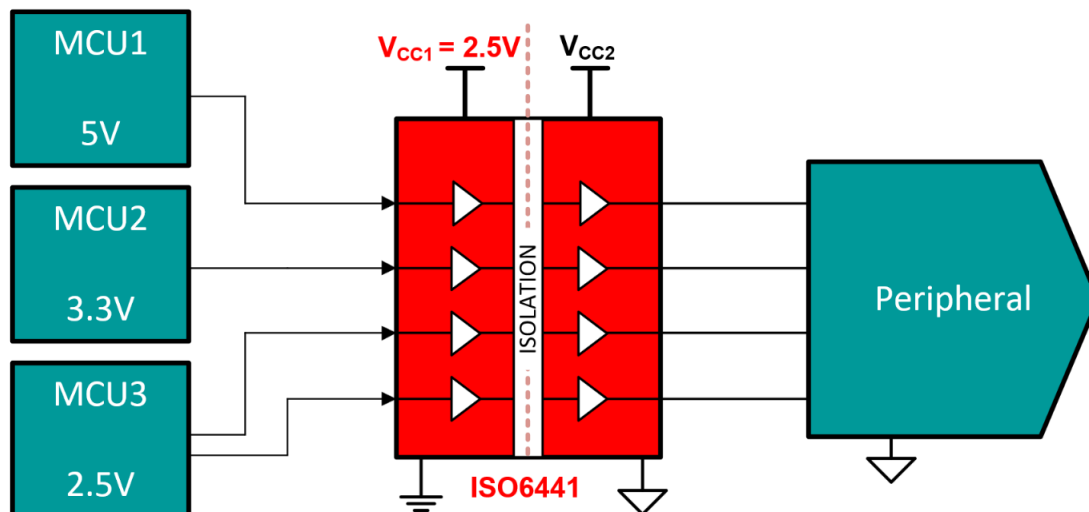

Figure 1-1. Block Diagram of Mixed-Voltage Domain using Digital Isolator With Overvoltage Tolerant Inputs
For example, an overvoltage tolerant digital isolator such as the ISO6441 can allow a low-voltage isolated domain, such as 2.5V, to receive signals from a higher-voltage domain, such as 5V (Figure 1-1). This simplifies interfacing between devices with different supply voltages or power sequences, reduces component count and board area, and can improve system robustness during brown-out conditions. The inputs can also tolerate signal overshoots caused by parasitic effects, while helping preserve signal integrity during EMC transients by reducing the need for additional filtering networks. In some applications, the overvoltage tolerant input capability can also allow the isolator to be powered down during portions of normal system operation while signals remain present, helping reduce system power consumption and simplify power sequencing.
1. In this configuration, a digital isolator without overvoltage-tolerant inputs can have unexpected behavior or can experience damage due to the violation of the absolute maximum ratings (Figure 1-1)
On a digital isolator without overvoltage-tolerant inputs, the input structure operates within a specified input-voltage range relative to its supply (Figure 1-1). During fast signal transitions, parasitic inductance and capacitance can cause the input voltage to temporarily exceed the supply rail. These transient overvoltage conditions can stress the input circuitry, particularly when the overshoot occurs repeatedly at high switching frequencies.